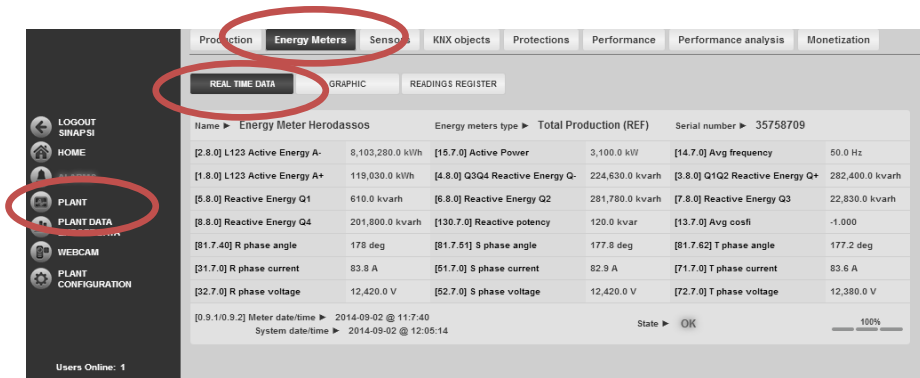

Figure 147 – Energy meters – OPTIONAL
- *OBIS*: a series of OBIS are listed according to the type of data provided by meter protocol. For a complete list please refer to the website <http://www.visualenergy.de/en/obis-codes.aspx>. See Figure 147 for an example